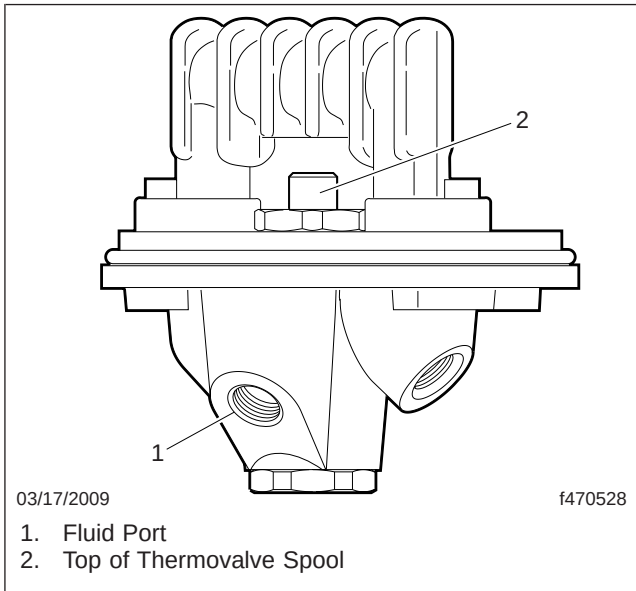

Fig. 4, Fluid Heat Thermostatic Test
6. While looking into the fluid port of the bottom plate (Fig. 4), flow cold water over the thermovalve for 30 seconds, then run hot water over the thermovalve to determine whether the thermovalve spool is opening and closing.